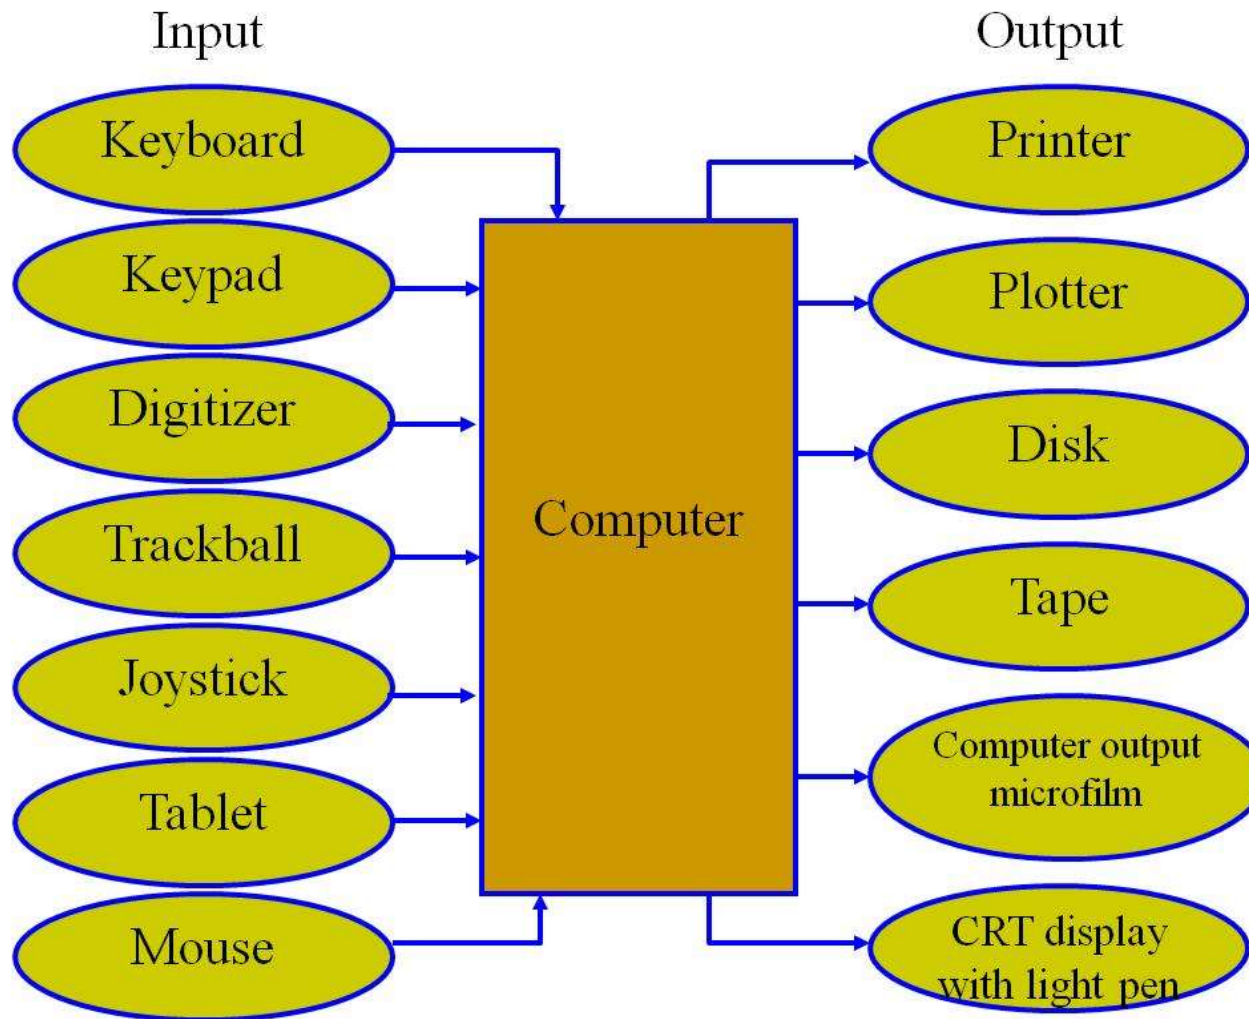

Figure 2: Input/output devices of a CAD/CAM system.
- Examples of input/output devices are shown in Figure 2.